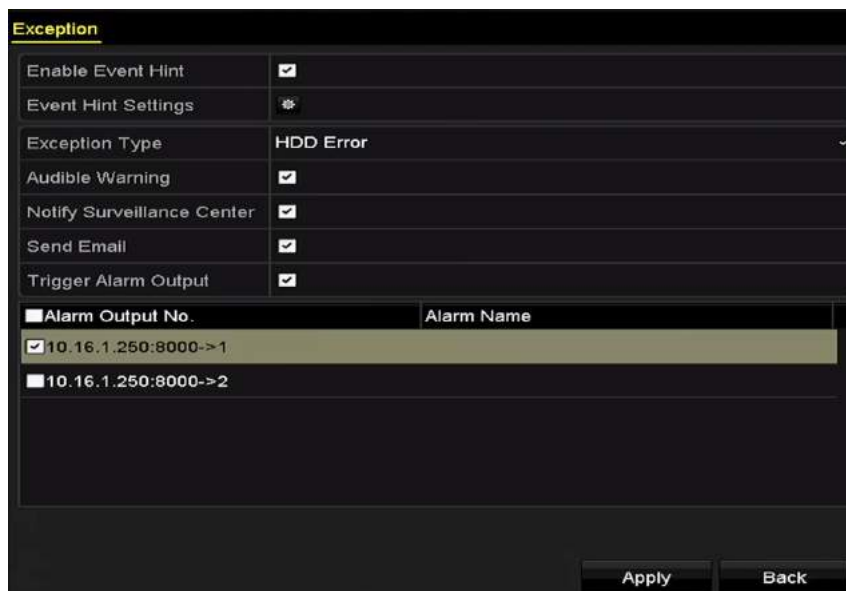

Figure 14-30 Configure HDD Error Alarm
Step 3 Check the checkbox(s) below to select the linkage action(s) for HDD error, as shown in Figure 14.30.